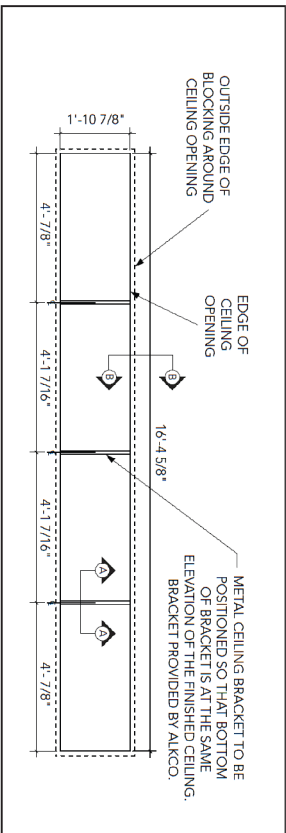

Figure 4a
2. If the installation involves a continuous row of fixtures, follow the guidelines below. If it is a single flanged fixture, skip this step and move to Step 3 below. Once the ceiling opening has been cut and the blocking has been put in place around the opening, it is time to install the ceiling brackets. One ceiling bracket is included with each fixture. Position the ceiling brackets and secure them in place as shown in Figures 4a, 4b, 4c, 4d and 4e. It is important that the bottom of the bracket is at the same elevation with the face of the ceiling. When in place, the appropriate number of ceiling openings should be framed out. Each opening within the row should be equal in size when the ceiling brackets are in position.